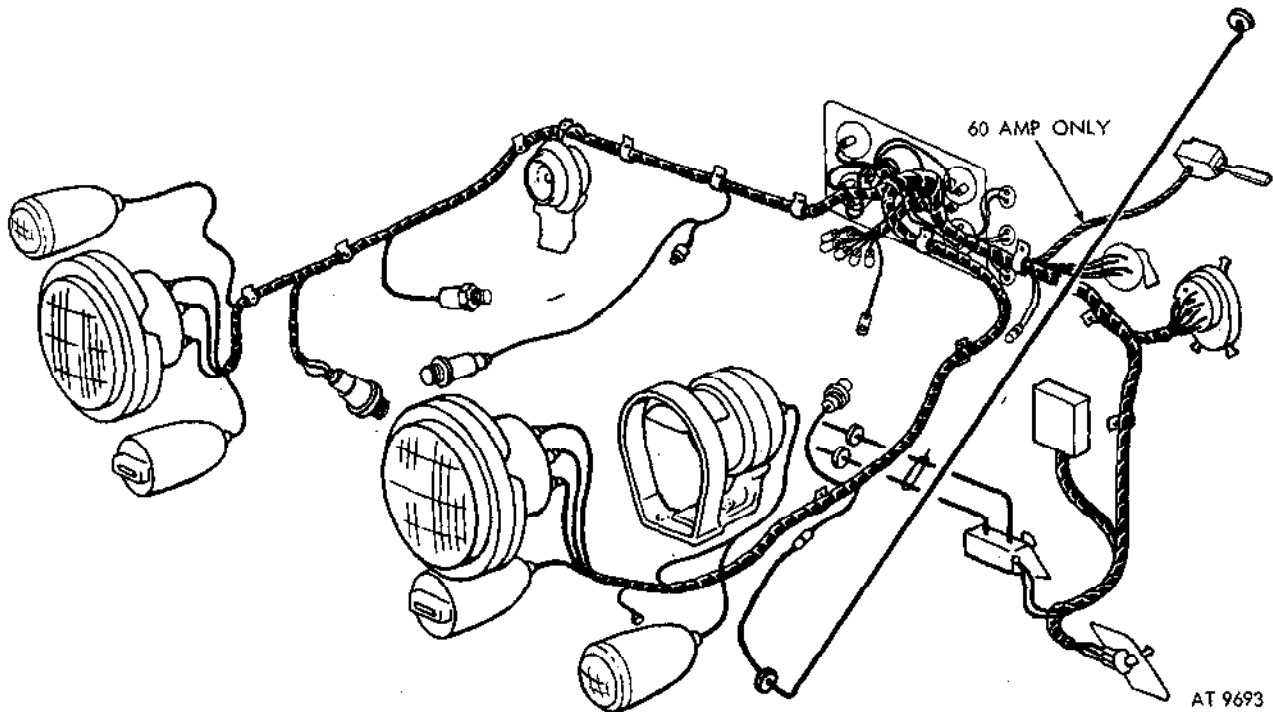

Figure 2-225. Front wiring harness assembly (M151, M151A1, M151A1C, and M718 vehicles).
b. Removal of Front Wiring Harness (M151, M151A1, M151A1C and M718 Vehicles). Figure 2-225 shows the front harness assembly and its position in the vehicle.
(1) Remove front seats (para 2-198), battery compartment cover (TM 9-2320-218-10) and transmission tunnel cover (para 2-199)